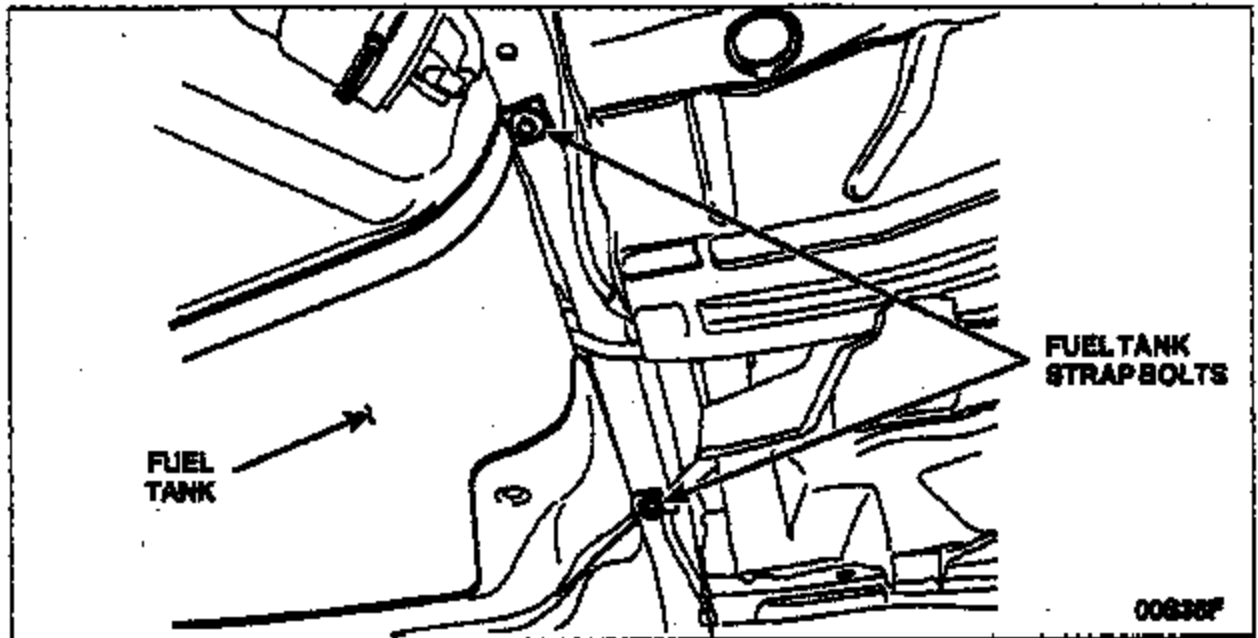

FIGURE 6
10. Remove the fuel tank strap bolts and position the straps out of the way. See Figure 6.